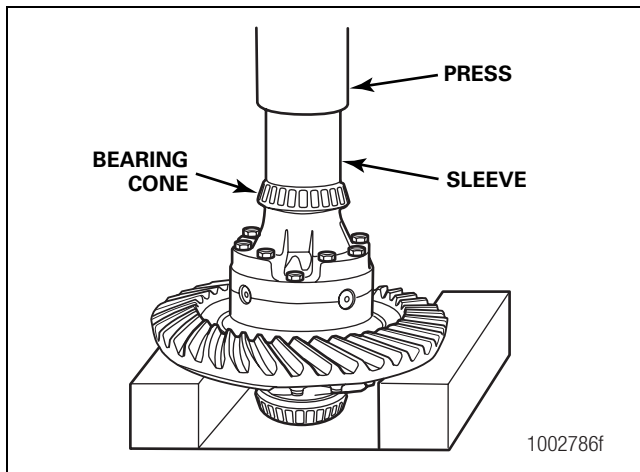

Figure 5.30
1. If the bearing cones on the main differential case were removed, install a new cone and cup in a fully-matched set from the same manufacturer. The bearing cones are not interchangeable. Use a press and sleeve to install the cones onto the case. Press only on the inner race of the bearing. Figure 5.30.